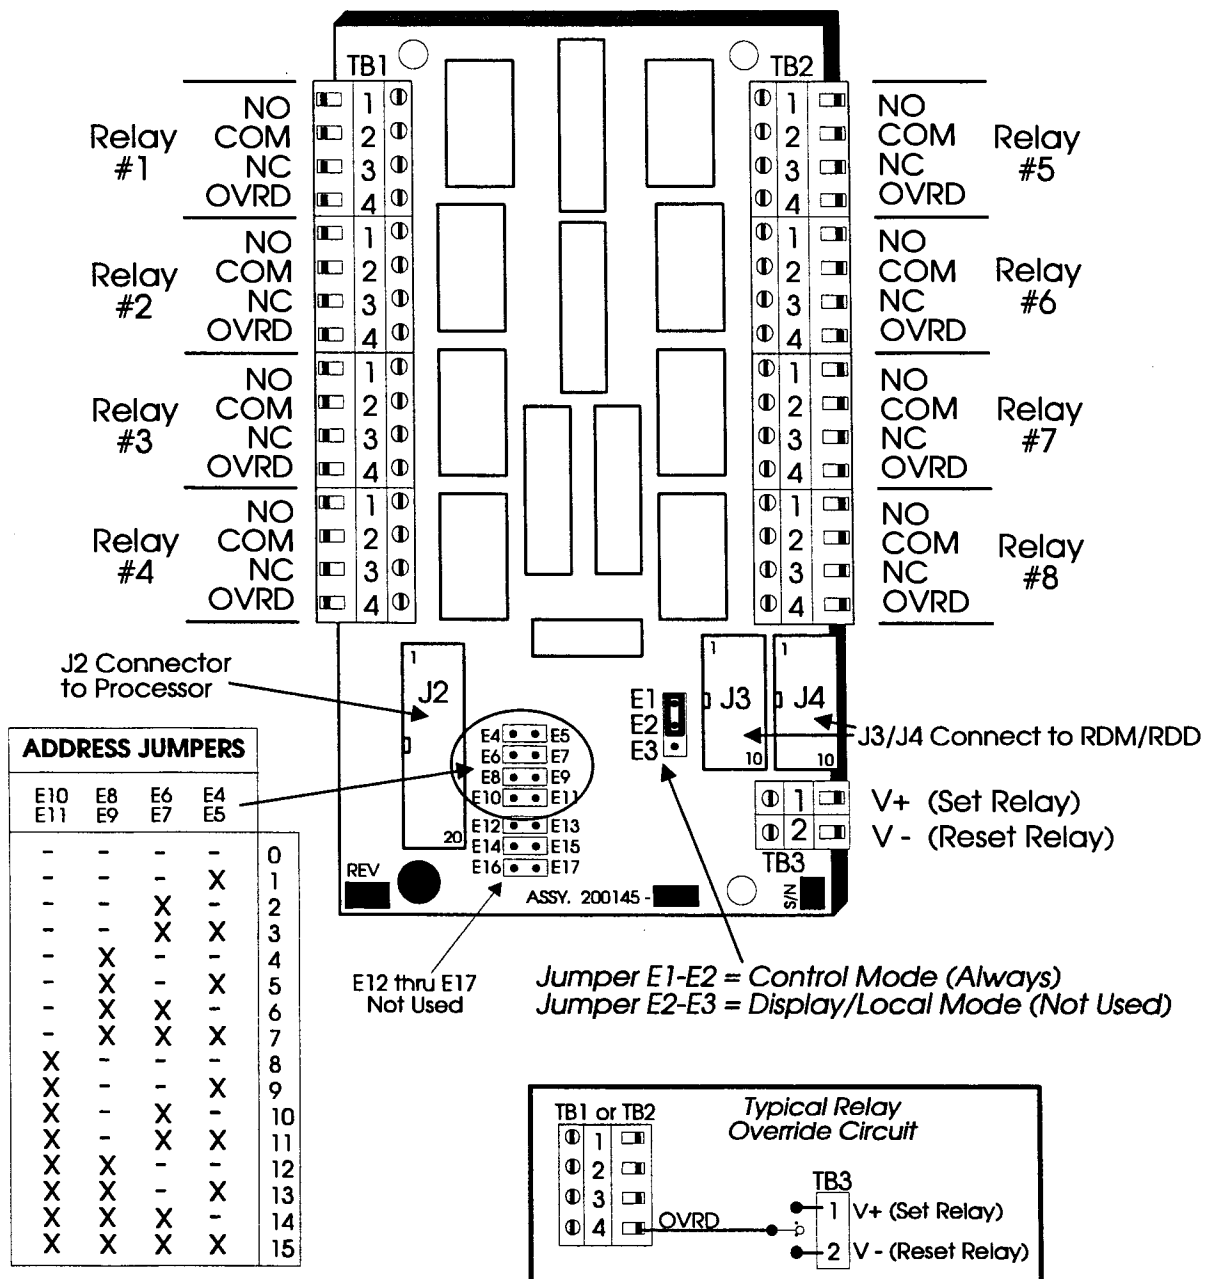

Figure 3-34. ZPR-8A ROAM, RELAY OUTPUT ADDRESSABLE MODULE
The ZPR-8A Relay board is a Relay Output Addressable Module (ROAM) with the same basic functions and capabilities of the ZPR-8 ROM except that it has it's own communication address and is not dependent on another board. The ZPR-8A provides eight (8) Form-C, dry contact, DPST latching relays (see Figure 3-34) which are controllable only via commands generated from the Host Computer. Each relay contact is rated for 2.0 amps @ 24 VDC, or 0.5 amps @ 24 VAC. The ZPR-8A board is interfaced with and connected directly to the RTU Processor Board and with it's own communication address set via jumpers E4 through E11, as shown in Figure 3-334
The OVRD connector is used as an override to HOLD the relay in the SET or RESET state (activated or deactivated) regardless of commands sent to it by the RTU processor or the Host Computer. Connections for the Override inputs are via TB3, with V+ used to 'SET' a relay, and V- to 'RESET' it (see Figure 3-34). The "Normally-open" and "Normally-closed" connections are used with the "Common" for the connection to, and the control of an external device. Since the relays are Form-C, "Dry-Contact" relays, power for the device being controlled must be provided from an external source. Relay output connections are made on TB1 or TB2 with a minimum 22 AWG, 2-conductor cable and should normally remain within 1000 feet or less.